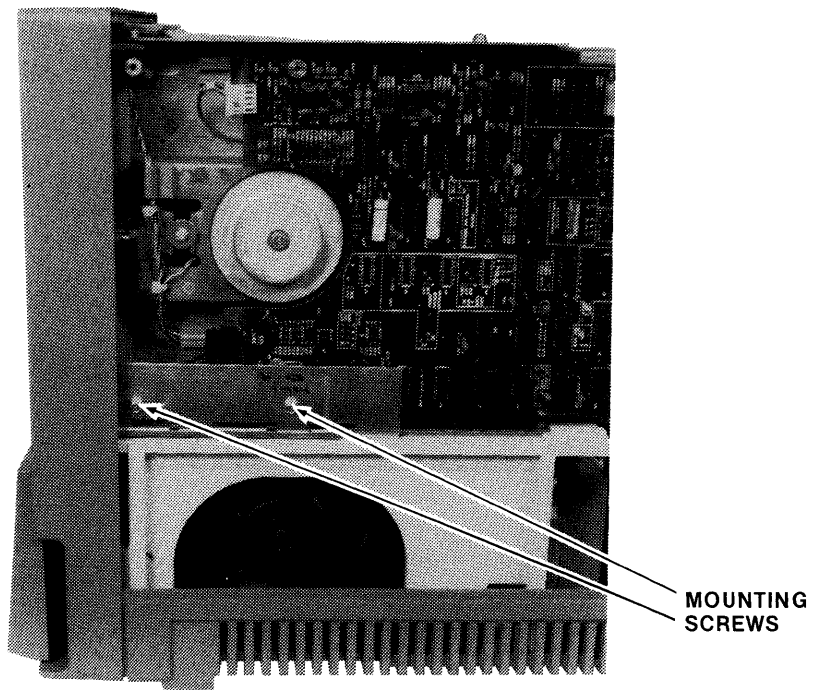

Figure 4-17. Disk Drive Side Mounting Bracket
11. Refer to Figure 4-17. Attach the disk drive to the side bracket, using two 8-32 x 3/8 screws with two #8 locking and #8 flat washers.